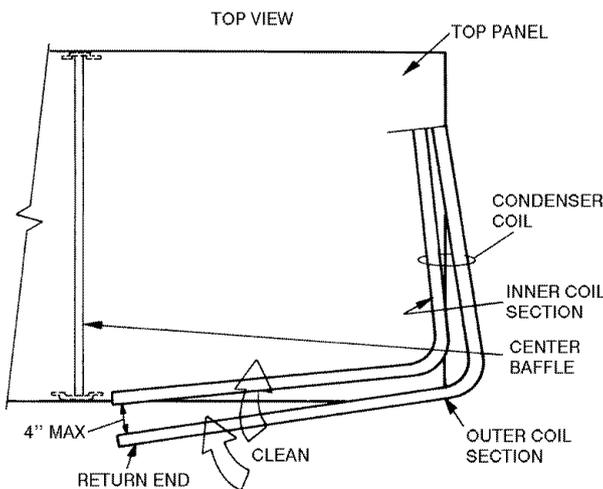

Fig. 54 — Separating Coil Sections
4. Remove device holding coil sections together at return end of condenser coil. Carefully separate the outer coil section 3 to 4 in. from the inner coil section. See Fig. 54.